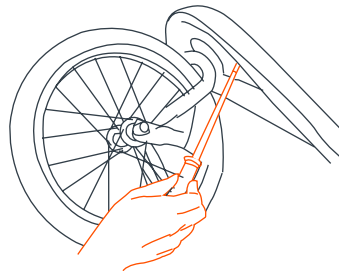

Fig. 7d
- Insert the 4 screws through the underside of the front frame assembly into the front fender's plastic tubes. Tighten the screws only until snug (Fig. 7d).